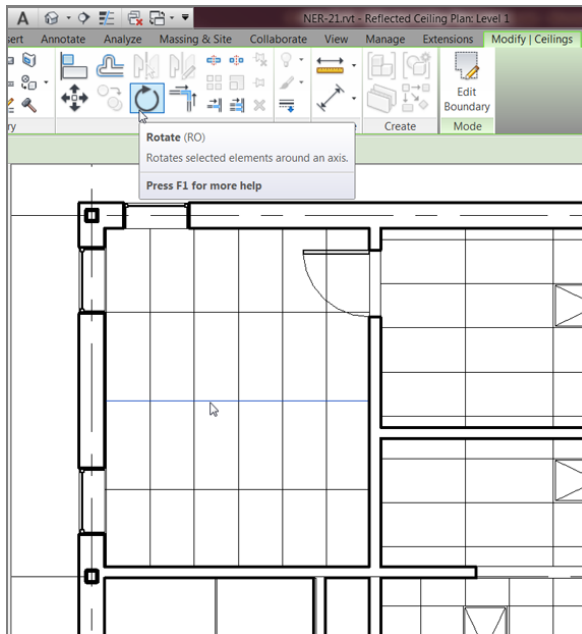

FIGURE 9.6: Select one of the grids, and click the Rotate button.
2. Pick a ceiling grid line, as shown in Figure 9.6. (Make sure you're zoomed in close enough to make the Rotate command active.)
3. On the Modify | Ceilings tab, click the Rotate button (see Figure 9.6).